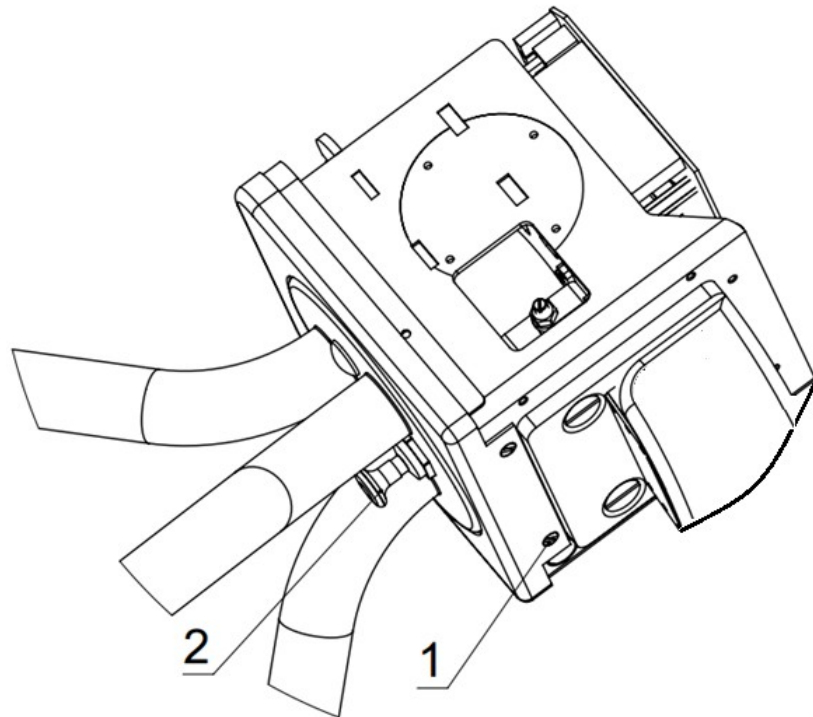
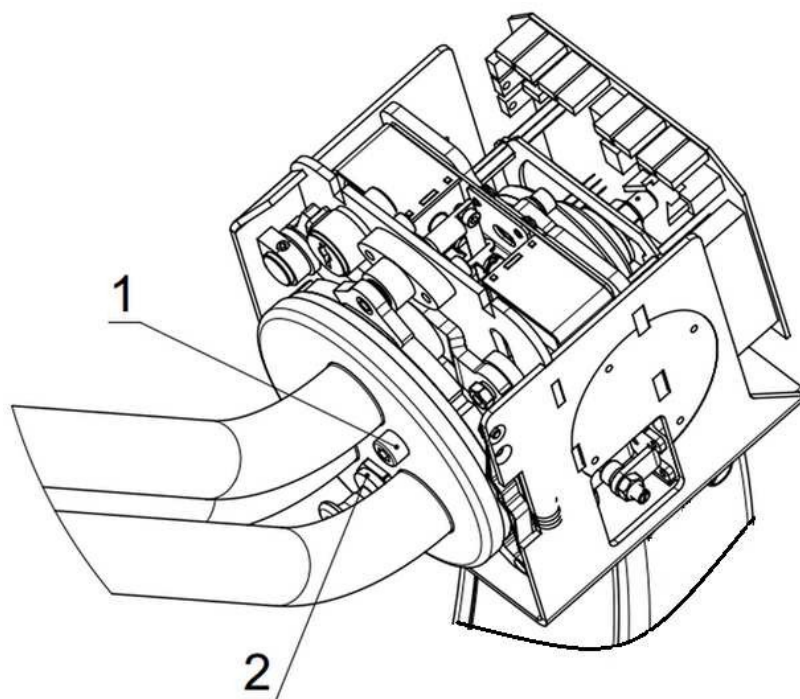
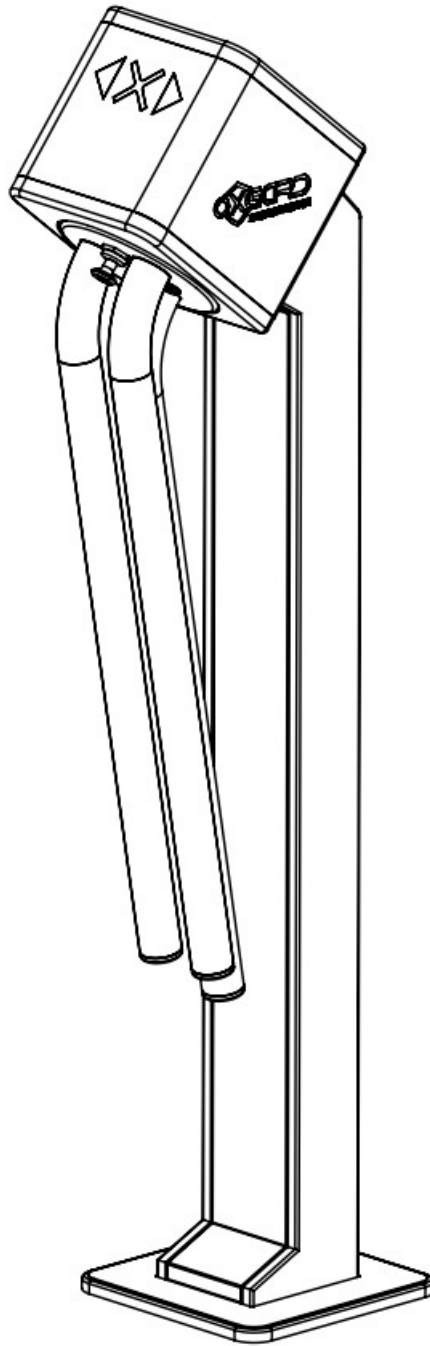

Fig.3
Fig.4
Fig.5
Move the backshell up to the end and release an access to the swivel mechanism. The view after removal of the backshell is shown on Fig 3.
Fold arms for ease of further work, to achieve this retract fixation lock 2 of the crossbars (Fig.3) and while holding one crossbar in a fixed position rotate the other crossbar by the other hand clockwise so that all the crossbars would align (Fig 4), put folded arms down (Fig 5) .
- 2.3. Loose two screws 1 (Fig.4) M8 with hexagonal key S6